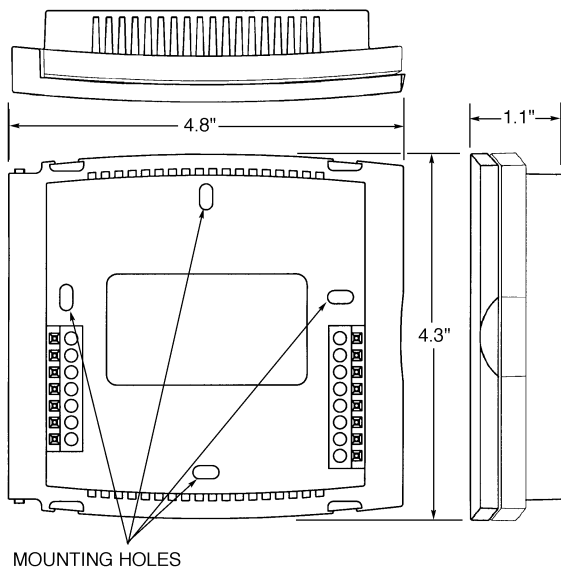

Fig. 1 — Thermostat Mounting
3. Remove the thermostat cover from wall plate (mounting base) to expose mounting holes. See Fig. 1. With the thermostat facing forward, press the back plate on the left hand side top corner to release the two prongs holding on the cover. Pull off the cover when the prongs have been disengaged.